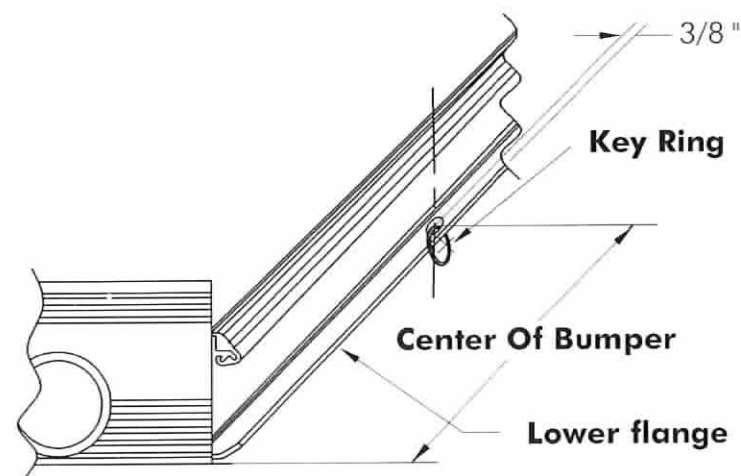

Fig. 2
- To install the rear key ring, find the center of the rear bumper (side to side) and mark the lower flange. Then measure in 3/8" on the centerline and center punch. Drill a 1/4" hole and install key ring thru hole. Install rear gate and attach the bungie hook into the key ring. See Fig. 2